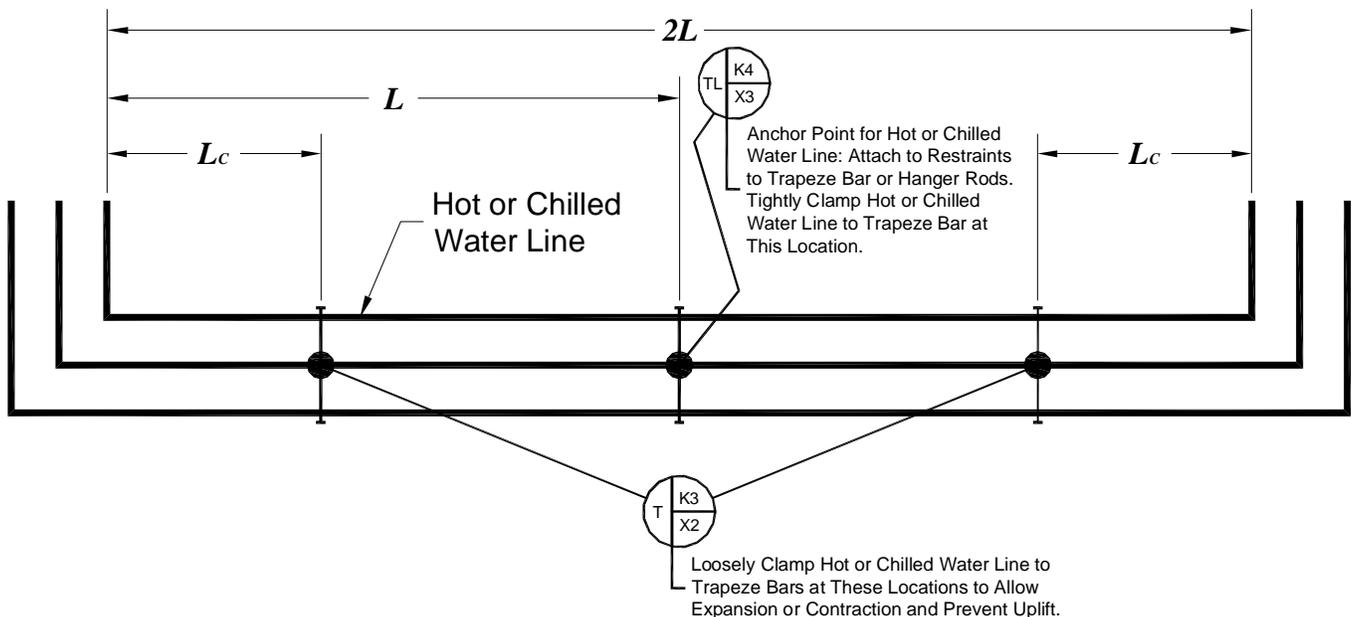

Figure S9-12; Hot or Chilled Water Line Trapeze Supported with Standard Water Lines: Case-1
There may be occasions when steam line, a chilled water line, or a domestic hot water line will be supported by trapeze bars along with other piping that does not need to meet the seismic restraint requirements for extreme temperature piping, see Figures S9-12 and S9-13 below. Special considerations must be taken into account when restraining the trapeze supported piping where one or more of the supported lines will experience expansion or contraction.
- i. If the longitudinal seismic restraint is attached to the trapeze bar, Case-1 Figure S9-12, the hot or chilled water pipe must be **tightly clamped** to the trapeze bar, and the restraints sized to handle the seismic forces generated by all of the pipes being supported by the trapeze bar.